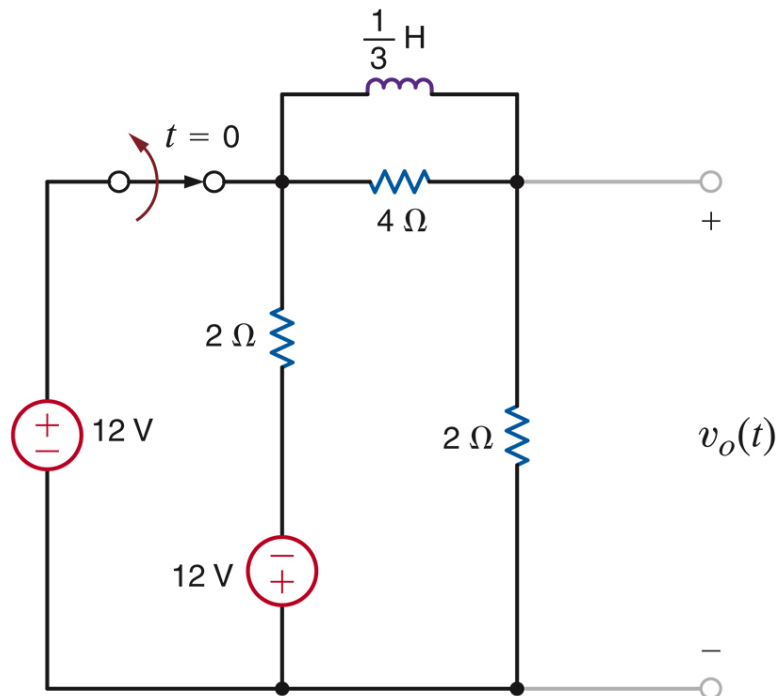

Figure 13: Circuit for Exercise 3
3) The switch in Figure 13 has been closed for a long time and is opened at $t = 0$. Calculate $v_o(t)$ for $t > 0$. Plot $v_o(t)$ versus time using MATLAB and include the plot in your report. Now simulate this circuit using MultiSim and plot $v_o(t)$ versus time. Include this plot in your report as well.